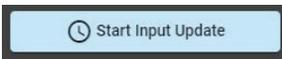

Figure 38. Start Input Update Button
Step 3: Click the 'Start Input Update' (Figure 38) button to load the selected template. You will see the status change from 'pending', to 'In progress', to 'Completed Successfully'.